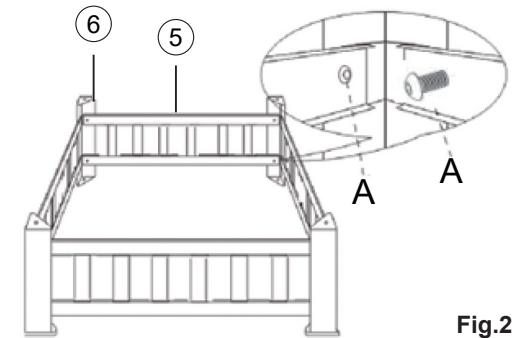

Fig.2
Attach Frame Support Parts (⑤) to Legs (⑥) by using Bolts (A), Hand tighten! (View Fig.2).